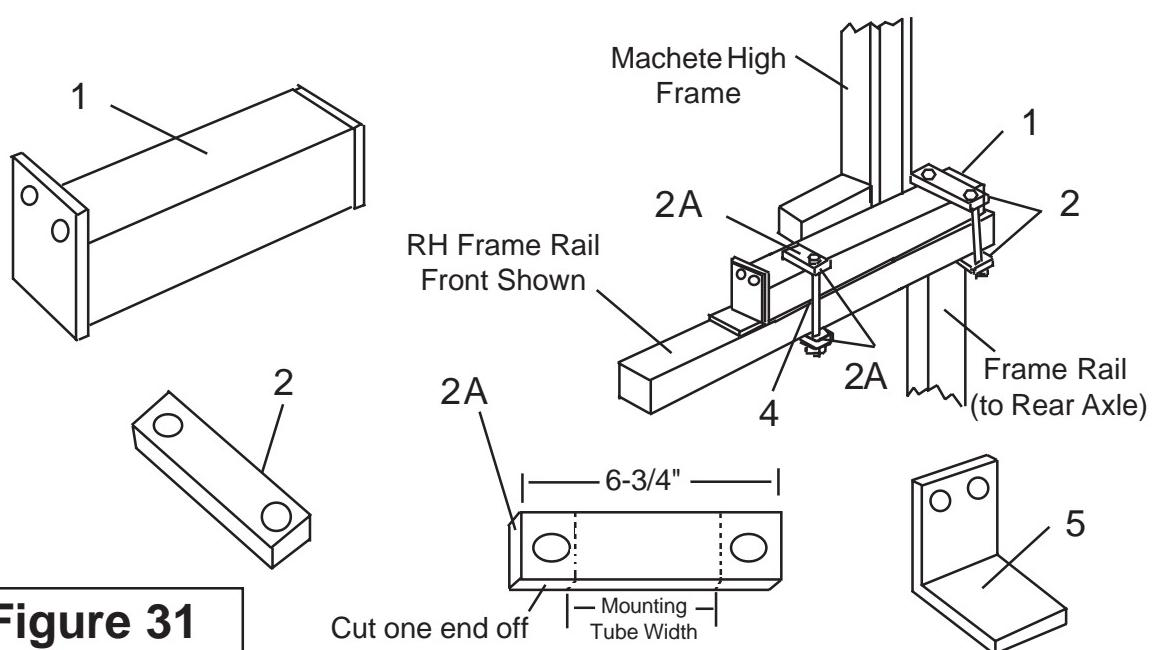

Figure 31
3. Go back and check to make sure you have tack welded the Frame Rail to Mounting Plate and Stabilizer to Frame Rail (**See Figures 31 through 39**).
5. Locate Mounting Tubes and Hardware. See Figure 31 for breakdown of these components.
- A. There will be one Mounting Tube for each side; these tubes are the same so it will not matter which is on which side. The Mounting Tubes are the same on either end. (See Figure 31 - Item 1).
- B. There will be 8 Bar Mounting Straps (Part # 02966639); these straps are the same but later in the assembly process 2 will have to be cut (See Figure 31 - Item 2 & 2A).
- C. There are 2 Angle Mounts (Part # 02966641), these have two holes in them and when mounted the hole will be up. (See Figure 31 - Item 5).
- D. There are 8 bolts (Part # 02957039) & Locknuts (Part # 00037200), the bolts are 3/4" X 10-1/2" Long (See Figure 31 - Item 4).
8. Weld Bar Mounting Straps. The RH Front bar Mounting Straps will have to be cut (**See Figure 31**) and welded to the top of the Mounting Tube (**See Figure 43**). Another one cut off and welded to the Bottom of the Frame Rail. (**See Figure 45**) The length of these Bar mounting straps should be cut so it will not be sticking over past frame rail.